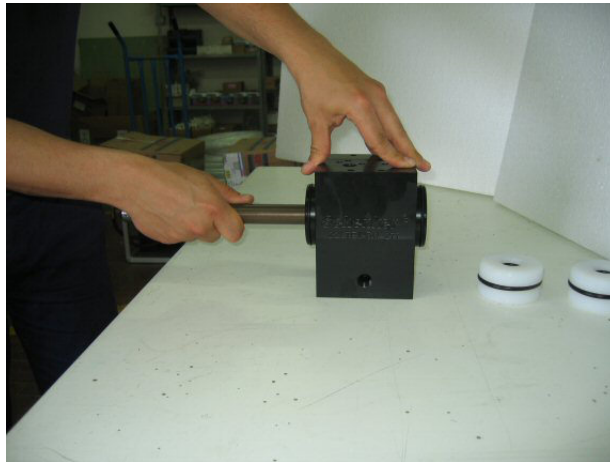

Fig. 11 – Extracting the ERS rod
- 14) Pull out the rod from the central part of ERS (pulling and rotating it slightly) (Fig.11);